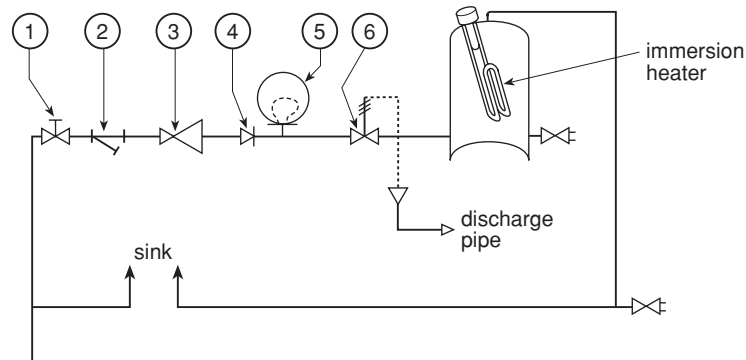

Figure 12
- (30) Illustrate in the space provided how two small cisterns may be coupled together in a domestic situation to give a larger capacity, ensuring stagnation of the water will not occur. (Page 91.)
- (31) With reference to Figure 12 name the components, numbered 1–6, fitted to the cold supply of the unvented system of dhw. (Page 107.)
- (32) Name the valve missing from Figure 12 which ensures complete safety regardless of excessively rising water temperatures caused by thermostat failure. (Without this device the system does not comply with the Building Regulations.) (Page 106.)